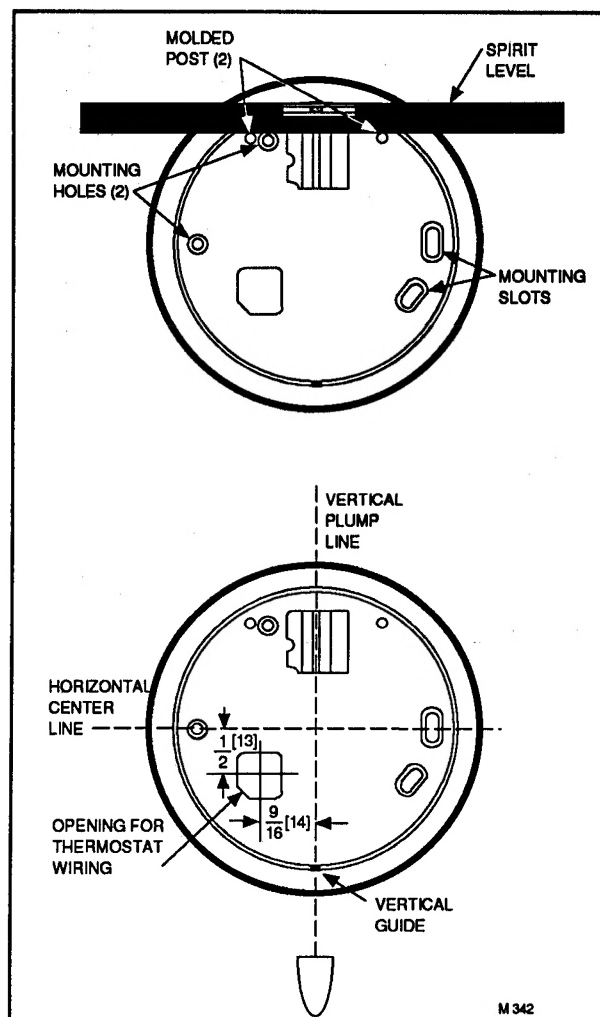

Fig. 13—LEVEL Q539 USING A SPIRIT LEVEL OR PLUM LINE (dimensions are in in. [mm]).
6. Level the thermostat subbase using a plumb line or spirit level as shown in Fig. 13.